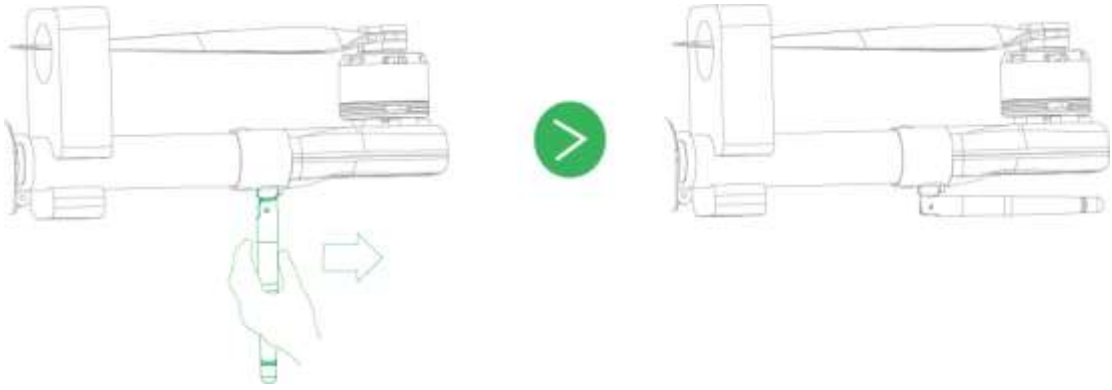

Figure 0-6
Step 2 Restore the antenna and keep it close to the arm, as shown in Figure 0-6.